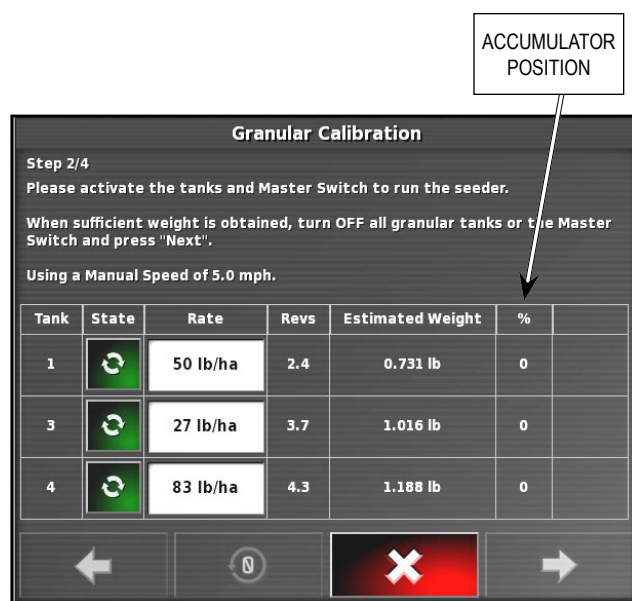

Figure 8.35 - Calibrating
- As calibration pails get full, use the tank buttons to turn OFF meters with full pails allowing others to keep filling, or switch off all tanks using the Master. During the calibration auger shaft revolutions and expected weight will be accumulated on the X30 console for each meter, refer to *Figure 8.35*.
IF DURING CALIBRATION ANY OF THE ACTIVATED ACTUATORS ARE IN A POSITION SETTING LESS THAN 5 OR GREATER THAN 95 (REFER TO *FIGURE 8.35*) THE CALIBRATION ERROR ALARM WILL POP UP, REFER TO *FIGURE 8.36*. SELECT A METERING DRIVE RANGE THAT ALLOWS THE ACTUATOR POSITION TO BE IN THE 5-95 TRANSMISSION SETTING RANGE AND RECALIBRATE. IF YOU IGNORE THE ALARM, THE ESTIMATED WEIGHT WILL BE HIGHLIGHTED RED FOR TANKS THAT HAD AN ERROR.